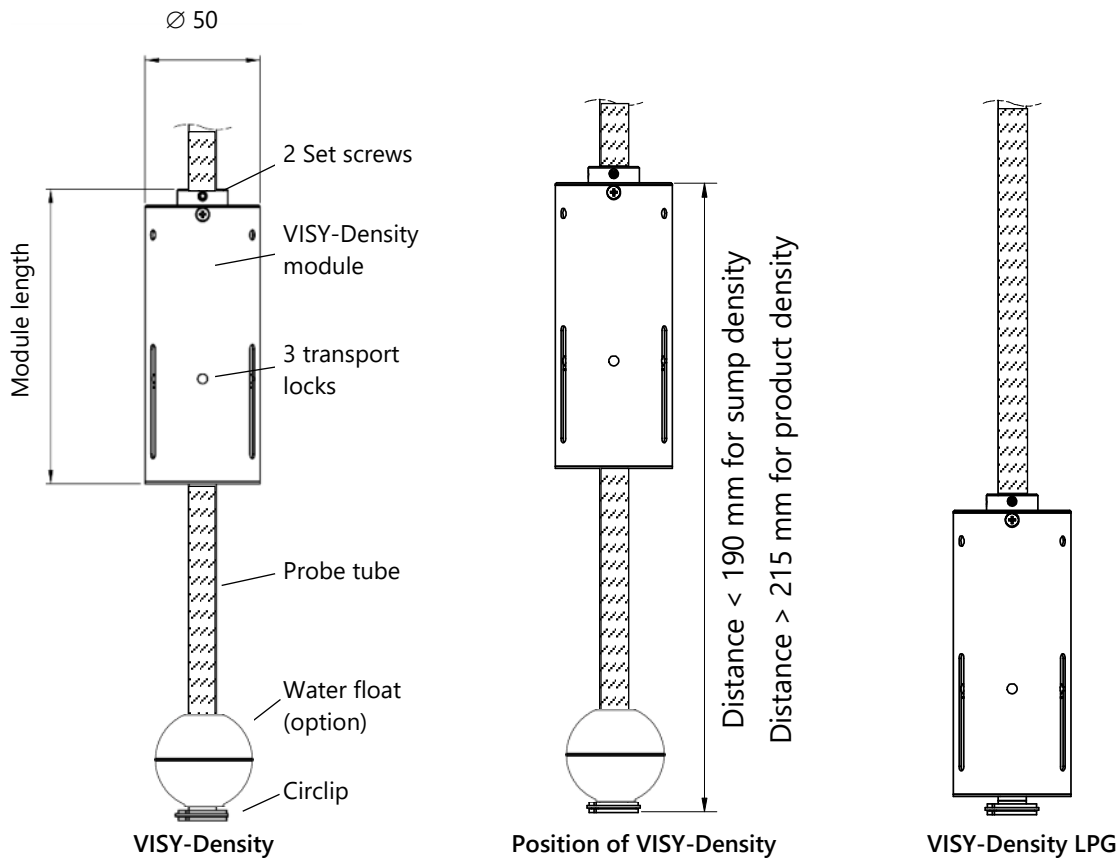

Figure 1: VISY-Density and VISY-Density LPG
Depending on the position of the VISY-Density module on the probe tube, either the product density or the sump density is determined, see Figure 1.
- 8th Depending on the application, fix VISY-Density at the appropriate height of the probe tube with 2 setscrews (see Figure 1: VISY-Density and VISY-Density LPG:
- 9th Depending on the application, fix VISY-Density at the appropriate height of the probe tube with the 2 setscrews (see Figure 1: VISY-Density and VISY-Density LPG:
- 4th Depending on the application, fix VISY-Density at the appropriate height of the probe tube with 2 setscrews (see Figure 1: VISY-Density and VISY-Density LPG: